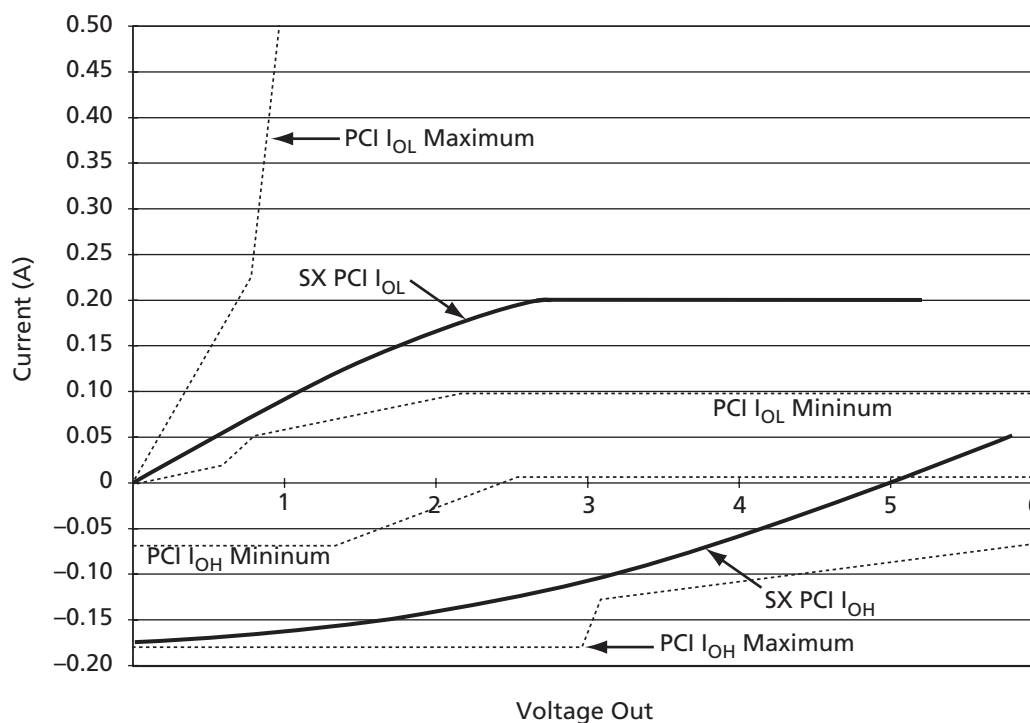

Figure 1-9 • **5.0 V PCI Curve for A54SX16P Device**
1. Refer to the V/I curves in Figure 1-9 on page 1-11. Switching current characteristics for REQ# and GNT# are permitted to be one half of that specified here; i.e., half-size output drivers may be used on these signals. This specification does not apply to CLK and RST#, which are system outputs. "Switching Current High" specifications are not relevant to SERR#, INTA#, INTB#, INTC#, and INTD#, which are open drain outputs.
3. Maximum current requirements must be met as drivers pull beyond the last step voltage. Equations defining these maxima (A and B) are provided with the respective diagrams in Figure 1-9 on page 1-11. The equation defined maxima should be met by design. In order to facilitate component testing, a maximum current test point is defined for each side of the output driver.
Figure 1-9 shows the 5.0 V PCI V/I curve and the minimum and maximum PCI drive characteristics of the A54SX16P device.